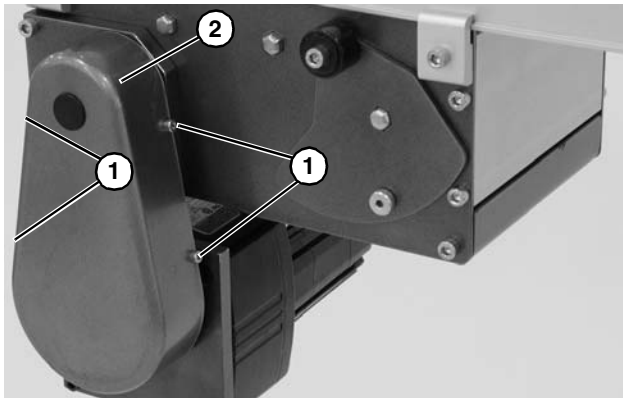

Figure 11
1. Remove four (4) screws (Figure 11, item 1) and remove cover (Figure 11, item 2).
4. Install cover (Figure 11, item 2) with four (4) screws (Figure 11, item 1). Tighten screws to 35 in-lb (4 Nm).